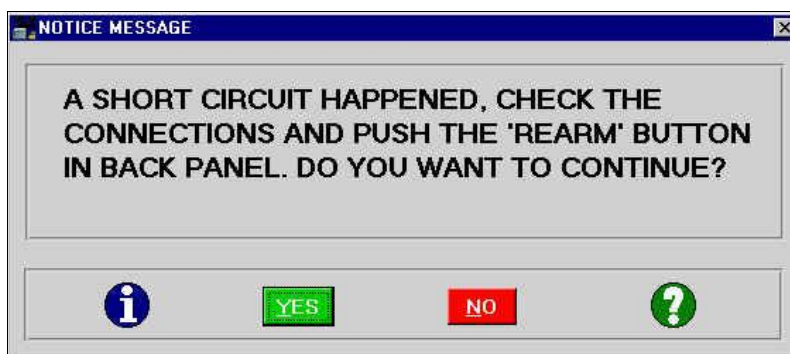

Figure 5-21: Message indicating short-circuit.
When the test button is operated, the excitation voltage (115 V~) is applied to the terminals of the transformer to be checked. If, during the measuring process, an overcurrent condition occurs ($I > 2,0$ A), either because of the existence of a short-circuit in the transformer or in the cables or because the no-load current exceeds 2.0 A, the test will be interrupted. The excitation voltage is no longer applied and the status LED (4) lights up in red. When this occurs, the programme will display the following message on screen (see Figure 5-21).